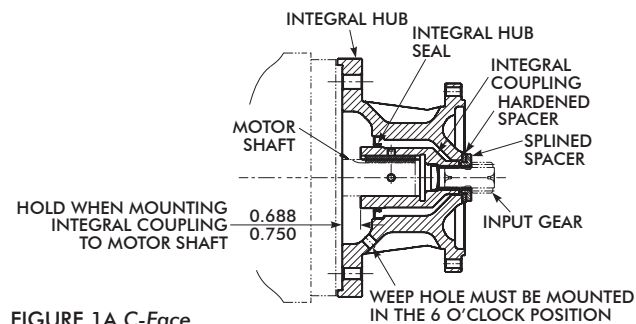

FIGURE 1A C-Face
- a. **C-Face:** Locate the C-Face coupling 0.688" to 0.750" from the motor face (**Hint:** Standard key stock is helpful for this purpose). Refer to the illustration in Figure 1A.